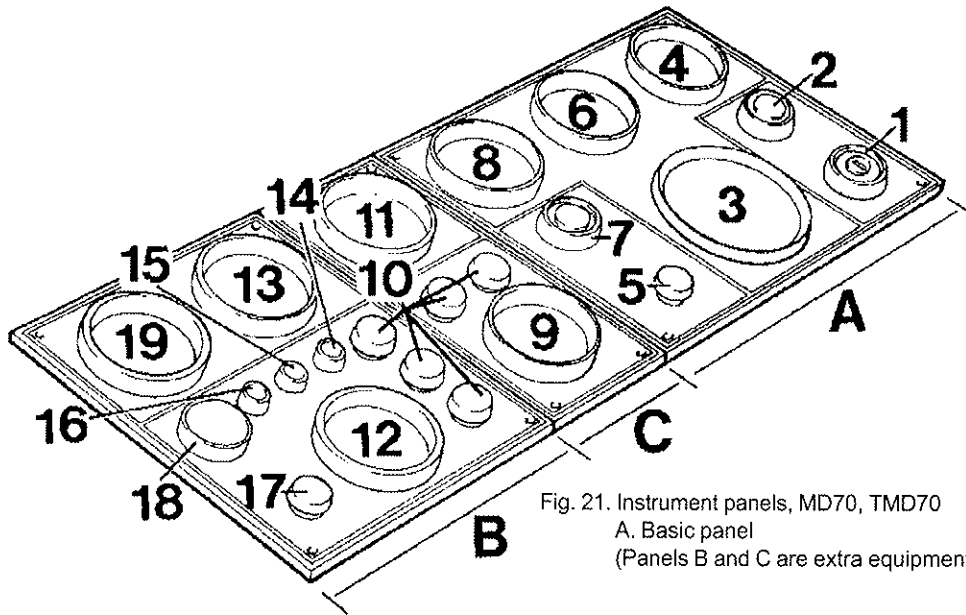

Fig. 21. Instrument panels, MD70, TMD70
**The numbering on figs. 21 and 22 coincide. The instruments on the alternative manoeuvre position panel which have the same function as those on the main panel therefore have the same number.**